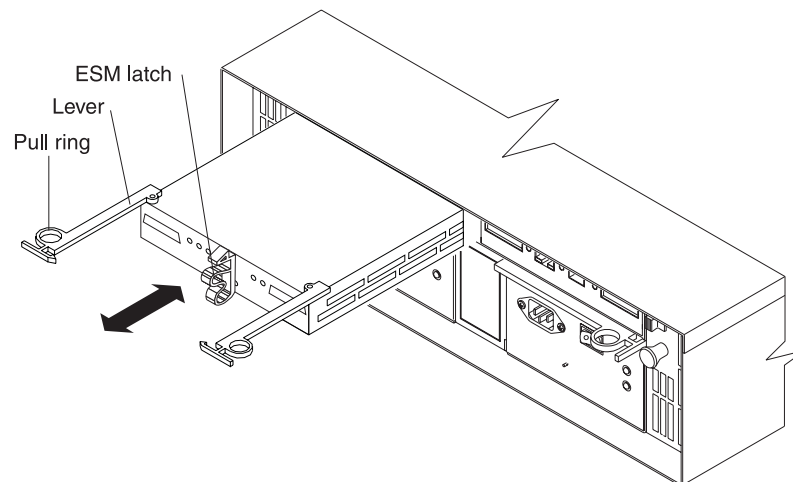

Figure 18. Replacing an ESM
1. Slide one ESM into the empty slot in the expansion unit. Be sure that the levers are pulled straight out as you slide the ESM in, as shown in Figure 18.